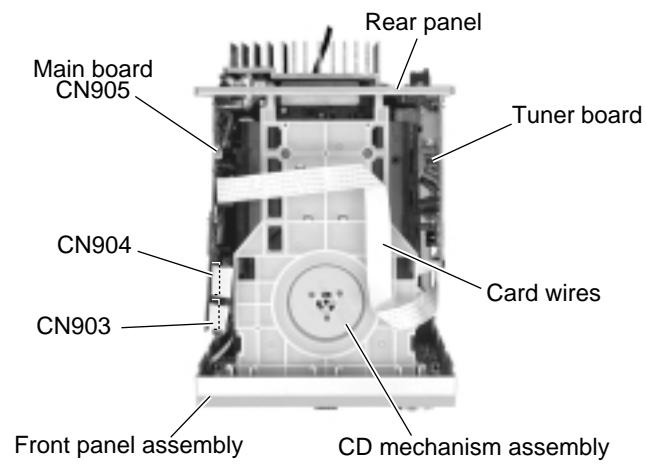

Fig.6
■ Removing the CD mechanism assembly (See Fig.6 to 8)